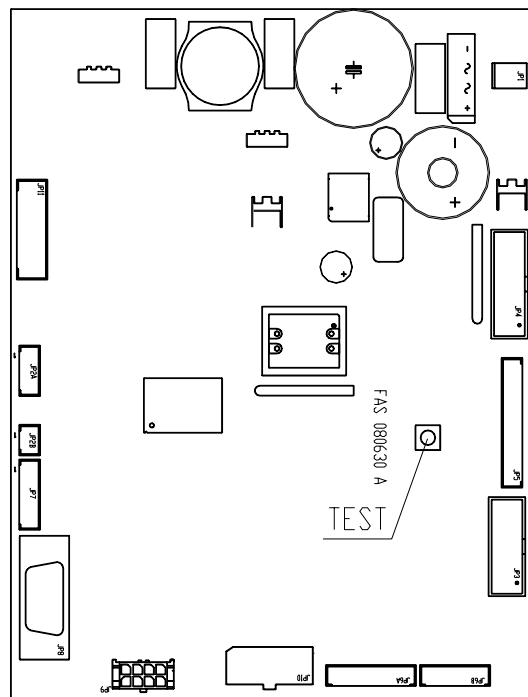

FIG. 3
- If the message "MEMORY CLEARED" appears on the display, press the button on the main board inside the box of the coin dispensing mechanism (see fig. 3) to initialize the memory. The message "DOOR OPEN, MACHINE IN MAINTENANCE MODE" appears on the display. The machine automatically starts a self-test. If no errors are identified, the column moves into the starting position and the machine is ready for use.
When the machine is switched on, if there are no data stored in the memory or if the data stored are corrupted, the message **"INIT"** followed by **"memory cleared"** appears on the display. The message **"INIT"** continues to be displayed until the main board and the power board start to communicate. The same condition occurs when the "erase memory" command is performed or when the memory has failed. By pressing the pushbutton TEST Fig. 3 on the main board inside the coin mechanism compartment the memory is automatically restored with the predefined values described in the instructions section.